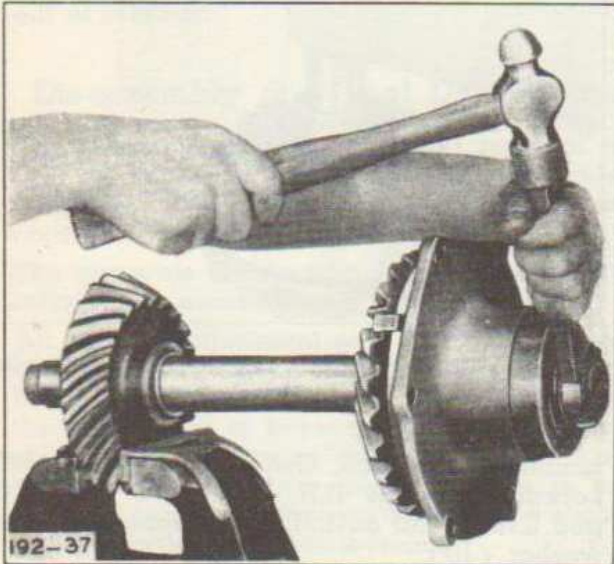

Fig. 30—Removing Bevel Gear Locknut
Grip pinion gear (14) in vise to prevent drive shaft from turning. Turn off locknut (20) with drift and hammer (See Figure 30) or wrench, Owatonna Part No. 885. Locknut (20) has L.H. thread on R.H. Unit and R.H. thread on L.H. Unit. Remove washer (21).